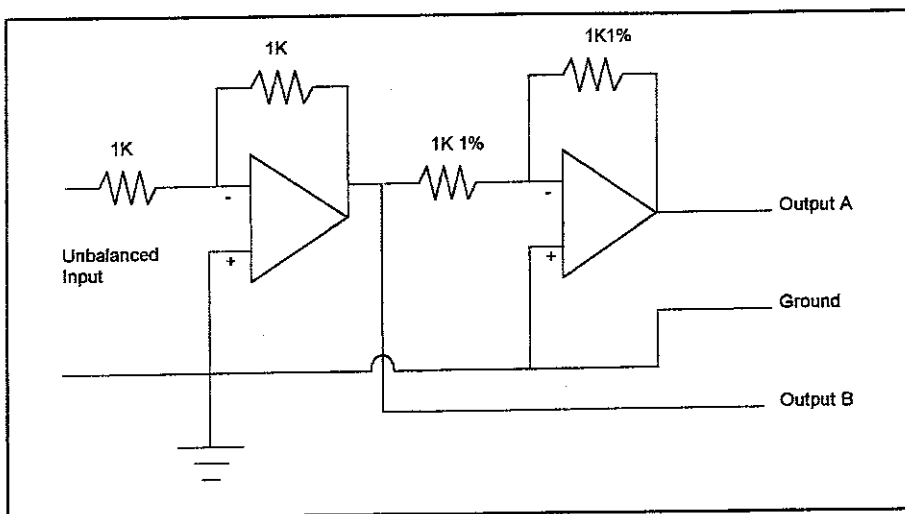
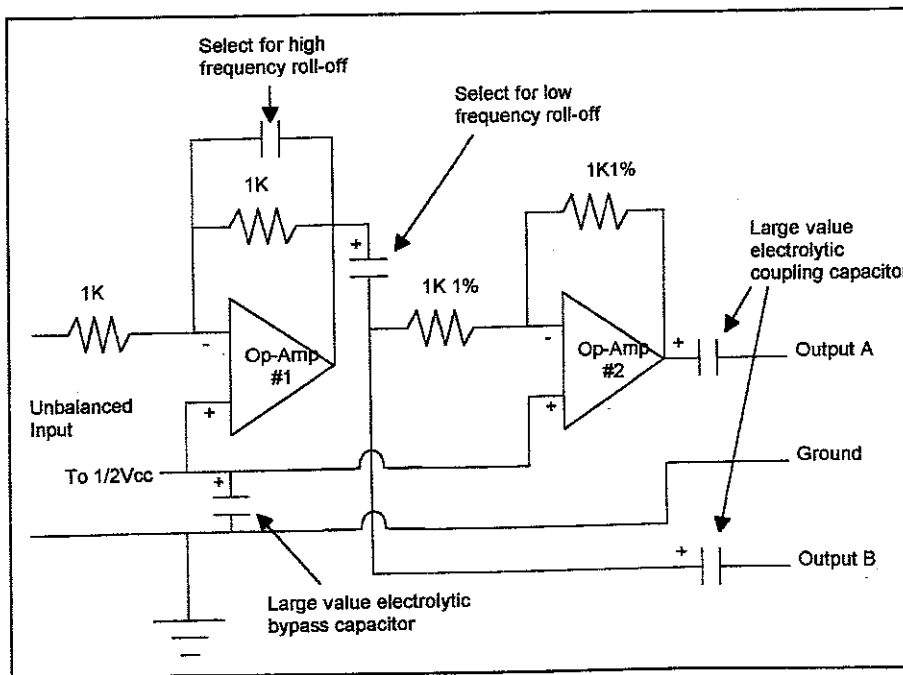

Fig. 4— Balanced/unbalanced output configuration.
Fig. 5— AC-coupled balanced/unbalanced output configuration.
Fig. 4 shows how to configure a balanced/unbalanced output circuit. In this circuit both op-amps have been configured to give a gain of one (1), although the op-amp #2 stage is the critical one. Op-amp #2 inverts the output of op-amp #1 as accurately as possible (which is why 1% resistors are used). When a balanced output is desired, it is taken directly between outputs A and B. When an unbalanced output is desired, it is taken from either the A or B output with respect to ground. The only requirement for both of these op-amps is that they have enough oomph to drive the desired load. Most op-amps designed for audio applications usually can drive 600 ohms, so these are not hard to find.
In fig. 4 we have shown the op-amps DC coupled. As in the case of the input circuits, frequency response is quite wide and frequency "shaping" will probably be necessary. To use the DC coupling as shown, by the way, requires that the op-amps be provided with a positive as well as a negative power supply. If this is not critical, single supply op-amps can be used with coupling capacitors between the op-amps and the outputs as shown in fig. 5. If this is done, then the coupling capacitors can be chosen to select the low-frequency roll-off point and the feedback resistor of op-amp #1 shunted with a capacitor to determine the high-frequency limit. This is also shown in fig. 5.